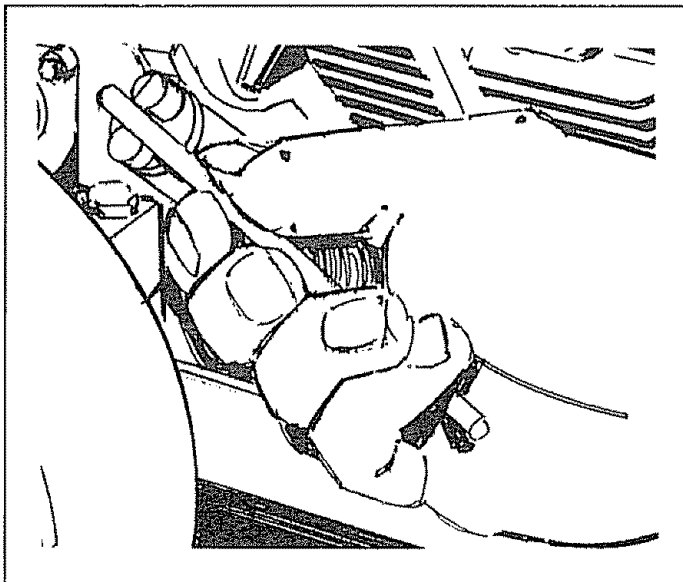

FIG. 18
- Clean area around oil fill plug and remove oil fill plug (Fig. 18).